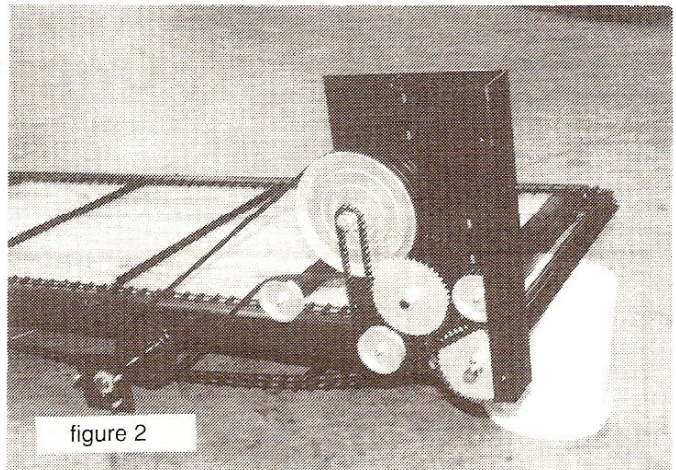

figure 2
4. Install the drag chain drive transmission (see figure 2). Slide square drive stub on lower rear corner of transmission over drag chain drive shaft, align two slotted holes on bottom of transmission with the rear two holes on the driver side (left side if standing at the rear of spreader). Insert 3/8 x 1-1/4 bolts, nuts, washers, and lock washers.
6. Install both 5/8 x 81 inch V-belts onto pulleys (see figures 2, 3). Insure bottom of belt is on top of the clutching idler pulley.